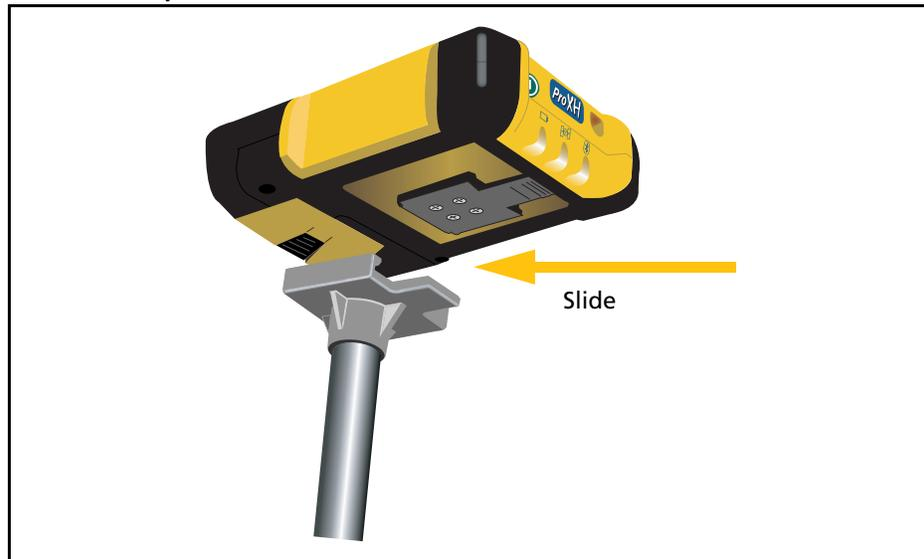

Figure 1.9 Mounting the receiver onto the screwthread adaptor
3. Slide the receiver onto the screwthread adaptor, see Figure 1.9.